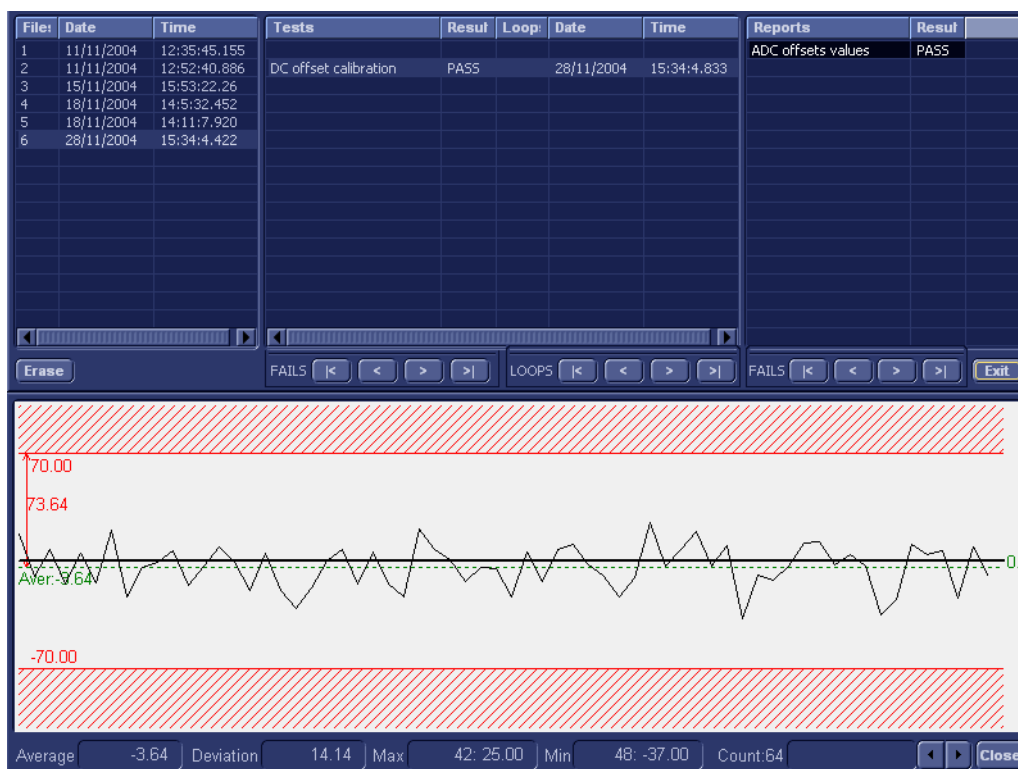

Figure 7-7 View Test Log - DC Offset Calibration
- the View Test Log window opens automatically, listing the test performed and showing whether it passed or failed, as shown in the example in Figure 7-7.
- 8.) Use the scroll arrows at the bottom of the Reports window (see Figure 7-7) to scroll through the channels and view the corresponding results.